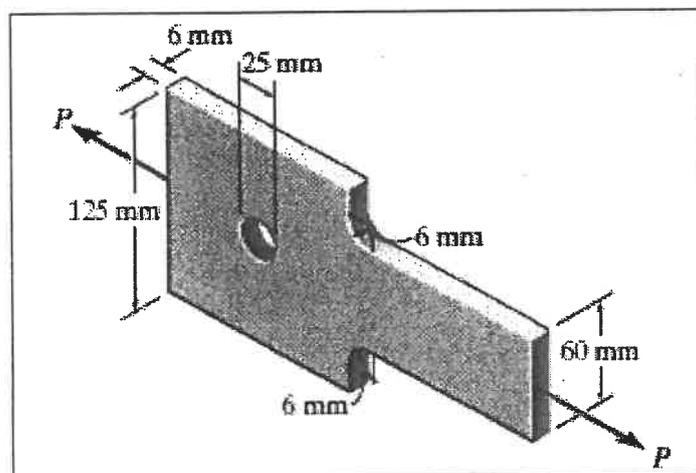

Figure 4
- (b) Figure 4 shows a bar subjected to axial force P. The allowable stress is $\sigma_{\text{allow}} = 150 \text{ MPa}$. Determine the maximum axial force P that can be applied to the steel plate. (Refer to Appendix A)